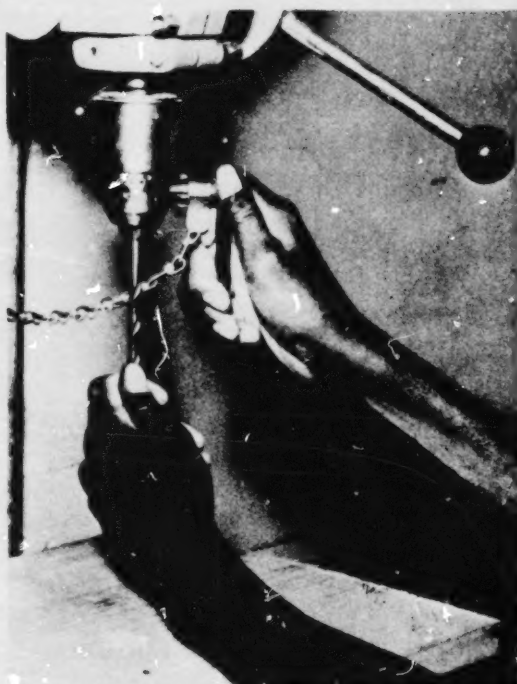

Figure 17-7 Using the chuck key
4. Place the cutting tool in the chuck and tighten it with the chuck key (Figure 17-7).